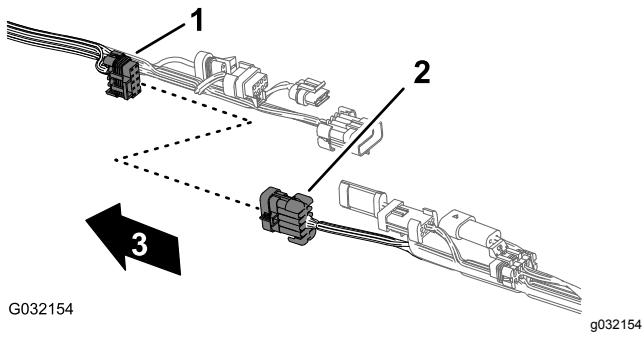
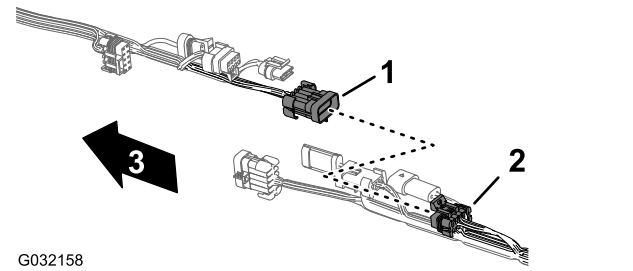

Figure 47
Figure 51
2. Disconnect the 5 pairs of connectors between the front and rear wire harnesses as shown in Figure 47 through Figure 51.